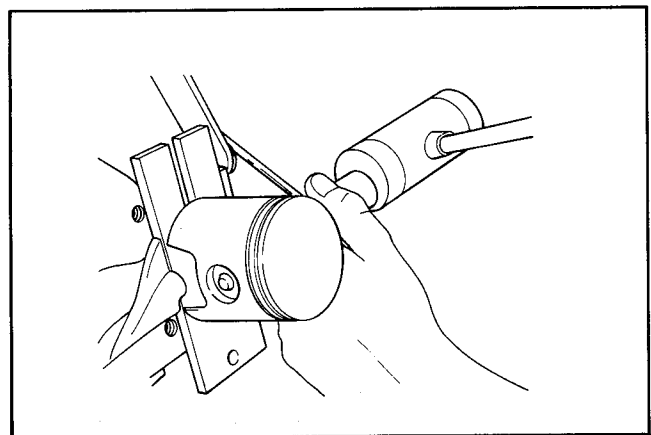

Figure 7-6 – Piston Pin Removal
- i. See Figure 7-6. Remove both piston pin retaining rings using pliers. Heat the piston pin bosses and remove the pin by drifting it out using the **PISTON PIN TOOL**, Part No. 96779-72.